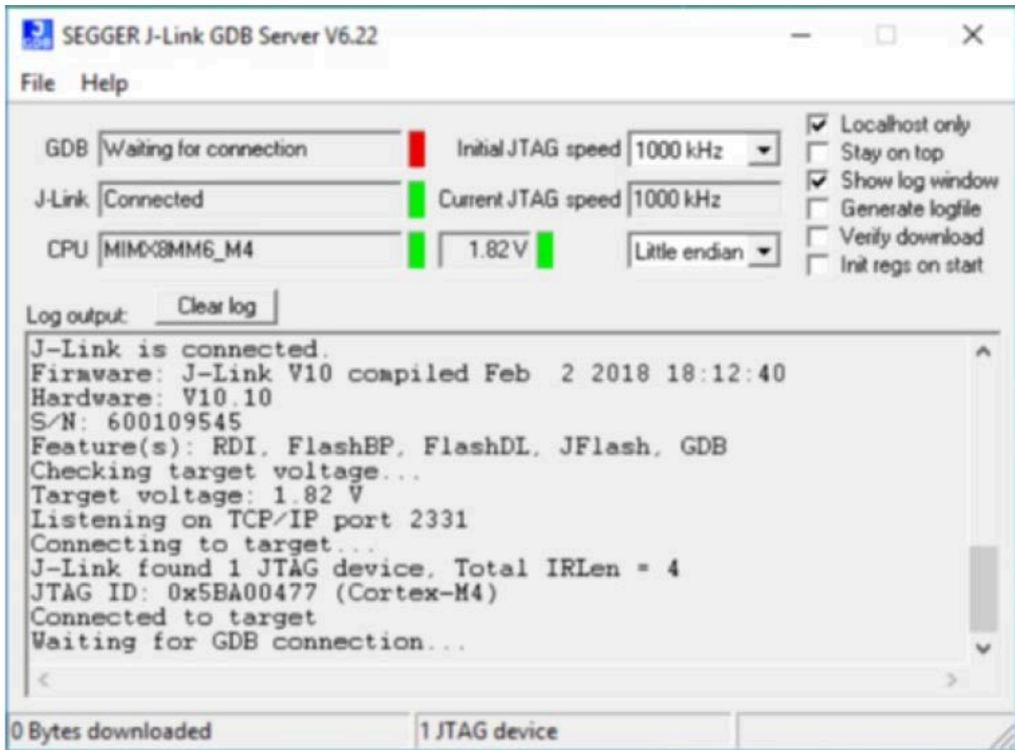

Figure 131. J-Link connected and GDB server running
5. After GDB server begins to run, the screen looks as in Figure 131: